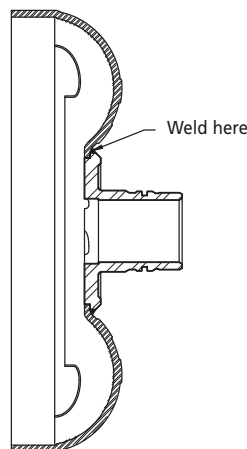

Figure 2
2. Install the Sonnax **CH-90CM-27** impeller hub from the outside. Weld around the OD of the impeller hub, making sure it is centered in the impeller. This weld must be leak-proof (see Figure 2).